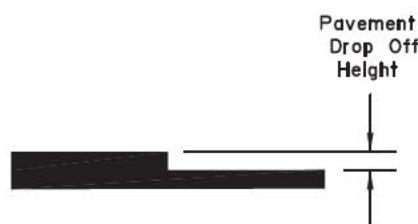

FIGURE 3
4. Use a Safety Edge for longitudinal or diagonal pavement edge drop-offs more than 2 inches within a traveled lane. See Figure 3.